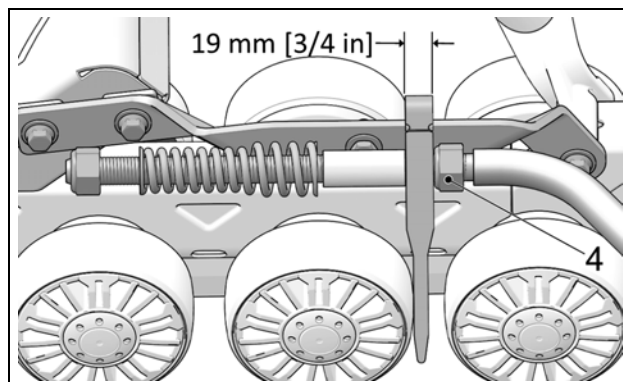

Figure 13
- Set nut (4) to obtain a distance of 19 mm between nut and stabilizing arm guide as shown on Figure 13.